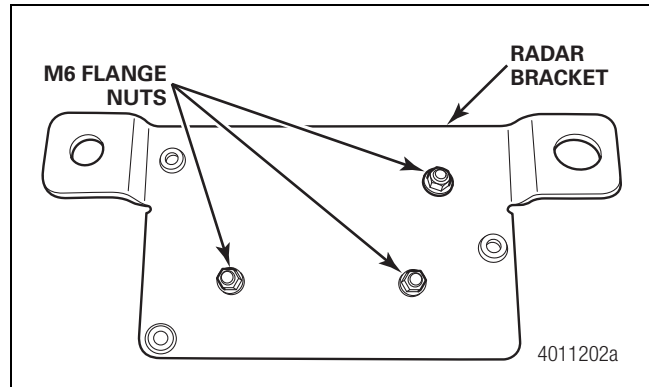

Figure 3
- Place the radar in position on the bracket. Install the M6 flange nuts provided in the kit and tighten to 61-75 in-lb (6.9-8.4 N•m). No movement should occur between the bracket and the radar sensor after the sensor has been correctly installed on the mounting bracket. Figure 3.